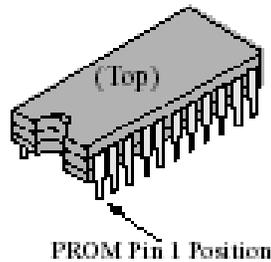

Figure 3
- b. Lay the PROM on its socket and make sure that Pin 1 is oriented correctly (Figure 3) and the pins are properly aligned.